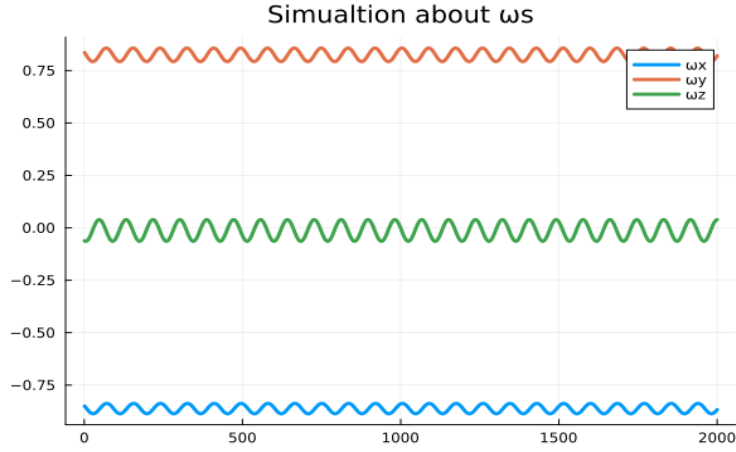

Figure 1: Angular velocity simulation about the solar panel normal vector
5. The perturbation on the initial state has a magnitude of $0.1 \frac{rad}{s}$ and sampled from a normal distribution. The result of the simulation is stable about the solar panel normal vector as shown in Figure 1.